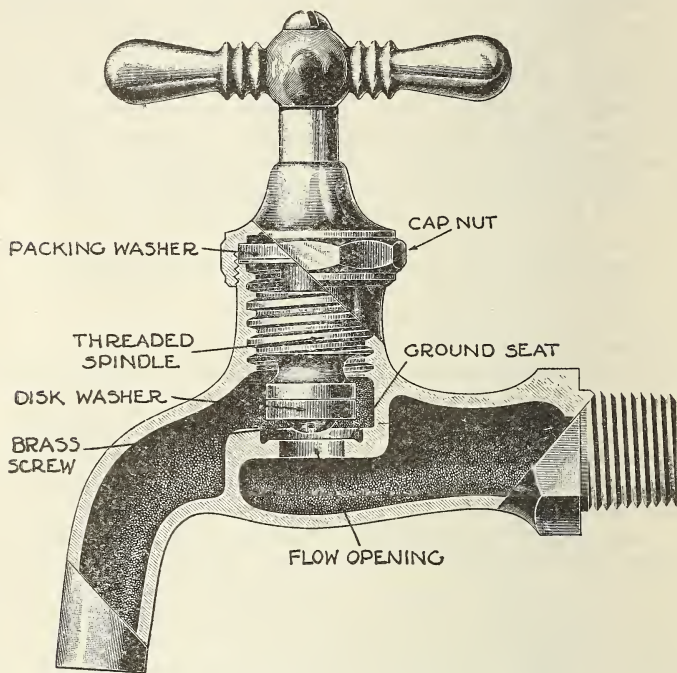

FIGURE 19.—Section of a compression faucet
*General description.*—The compression type17 of faucet is being used almost exclusively in modern household plumbing and is rapidly replacing the Fuller and ground-key types. (See fig. 19.) In the compression-type faucet, the flow of water is regulated by turning a lever, tee, or 4-ball handle, which is attached to a threaded spindle. When the spindle is turned down, the washer or disk at-